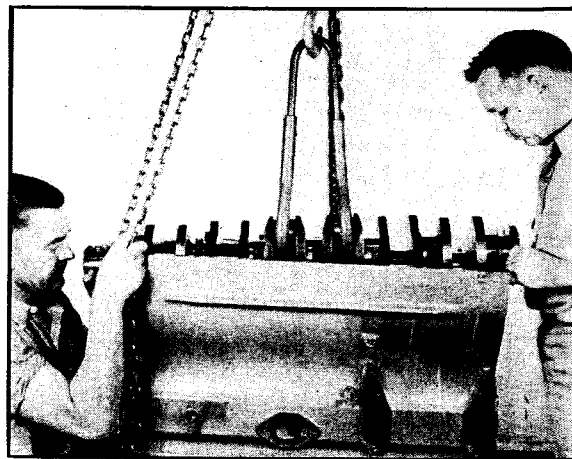

Fig. 12-3. Laying the crankshaft
5. Make sure all crankshaft journals are thoroughly clean. Lift the crankshaft with hooks protected with rubber hose, as shown in Fig. 12-3, and lower it in place carefully.